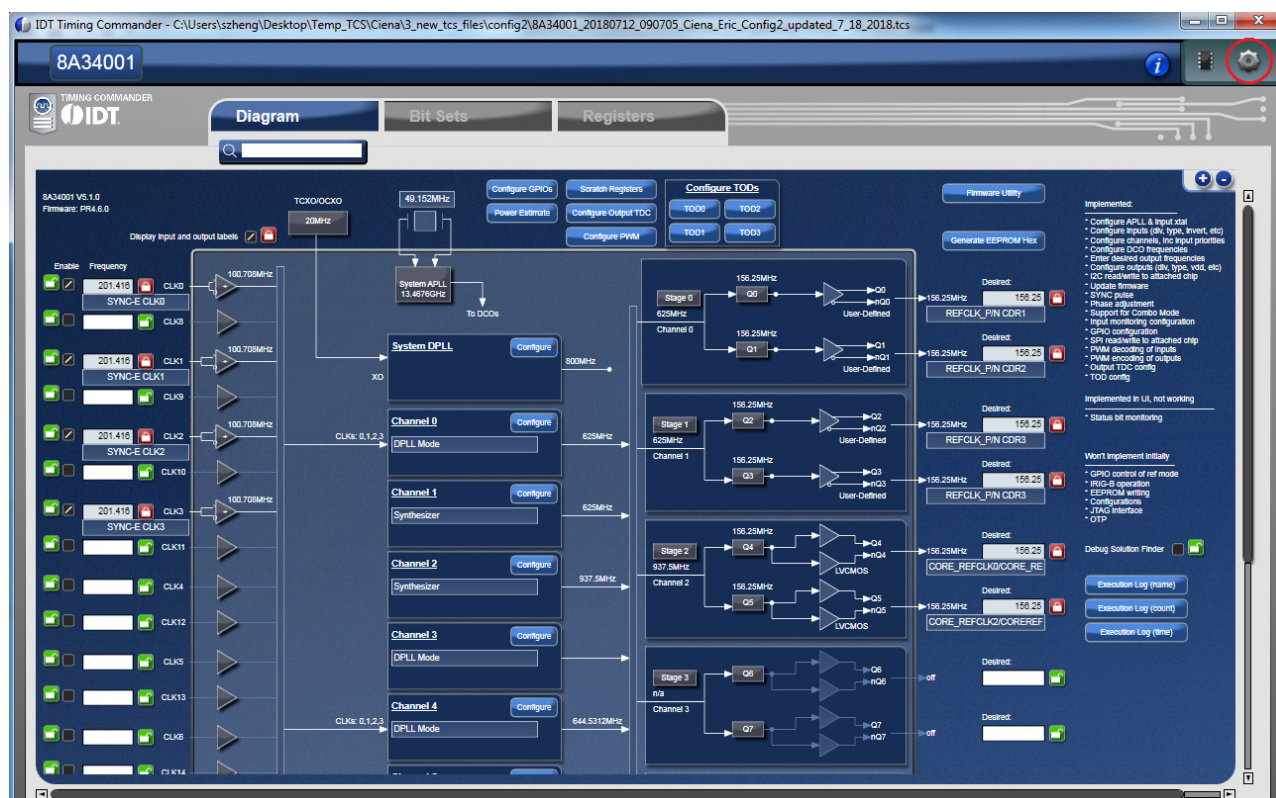

Figure 8. Timing Commander GUI with a Settings File Opened
4. The GUI window with the 8A34001 block diagram will open for configurations; or if “Open Settings File” is selected in Step 3, you will be prompted to browse and select an existing .tcs file and the personality file. When the configuration file is open, all configured values will be displayed (see Figure 8).
5. In order to connect the board with Timing Commander (PC), click the button (red circle) at the up-right corner of the GUI to set up the communication protocols (see Figure 8).